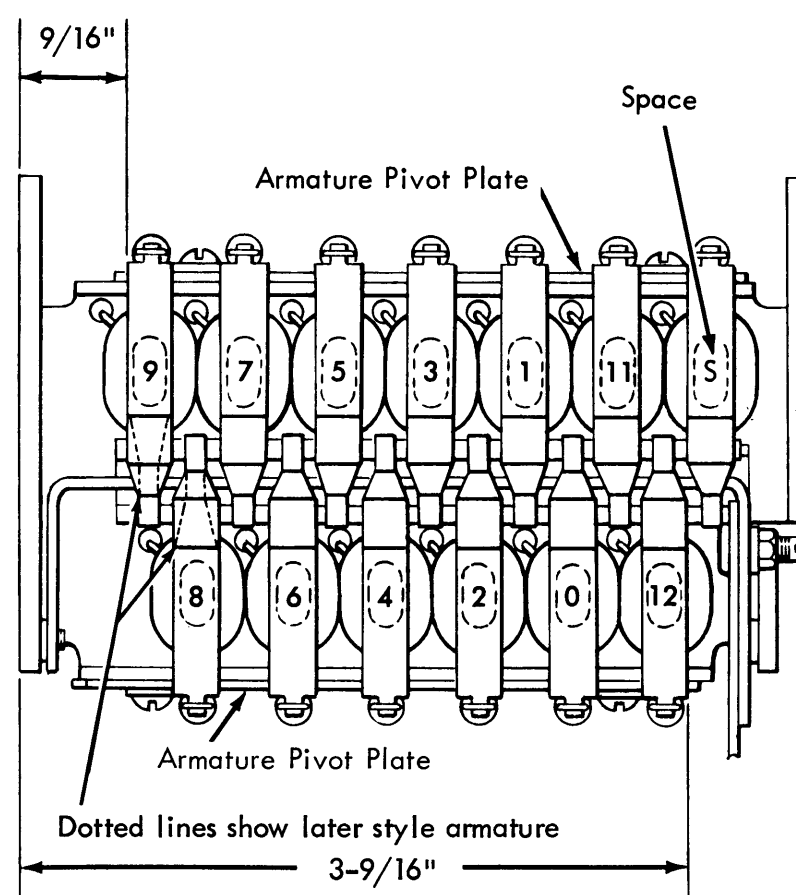

Figure 4-14. Armature Pivot Adjustment
1. Position armature pivot plate as shown in Figures 4-14 and 4-15.